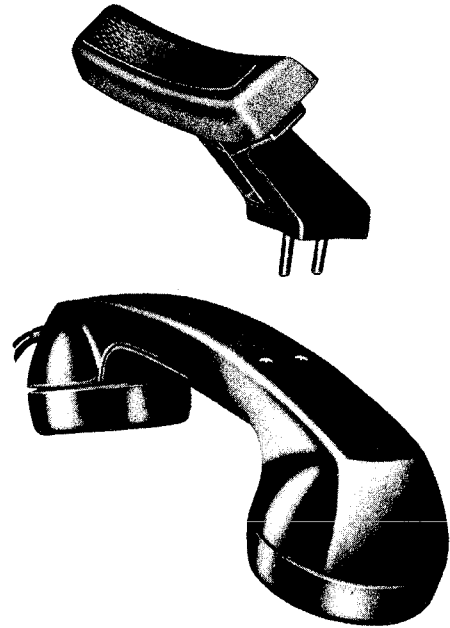
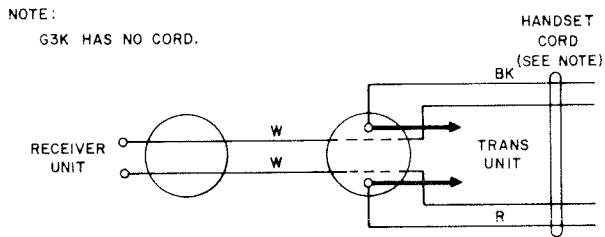
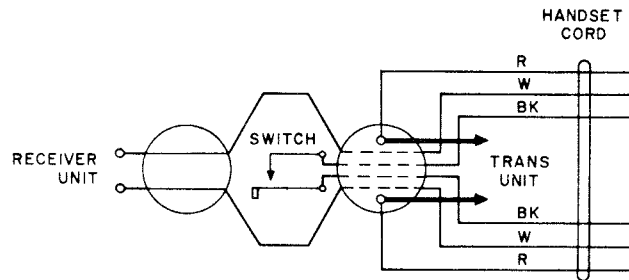

Fig. 5—G4-Type Handset Showing Shoulder Rest Assembly
Fig. 7—G1AR, G1FR, G1G, G1J, G3AR, G3BR, G3FR, G3K, G3M, G3P, G3R, G3S, G3T, G4AR, G4B, G3AA, and G3AC Handsets
Fig. 19—G5BR, G5KR, and G5PR Handsets
- 2.21** The G4AR and G4B handsets consist of T1 transmitter units, U3 receiver units, and H4CJ cords mounted on a handle having two holes for mounting a shoulder rest (Fig. 5). The shoulder rest is a shipped loose item and can be installed to fit either the left or right shoulder. The G4-type handset can be used as a replacement for G3-type handsets where a shoulder rest is desired. Connection Fig. 7 applies for G4-type handsets.
4.01 Fig. 7 through Fig. 19 show internal connections for the G-series handsets. See Tables A, B, and C for types of receiver and transmitter units.